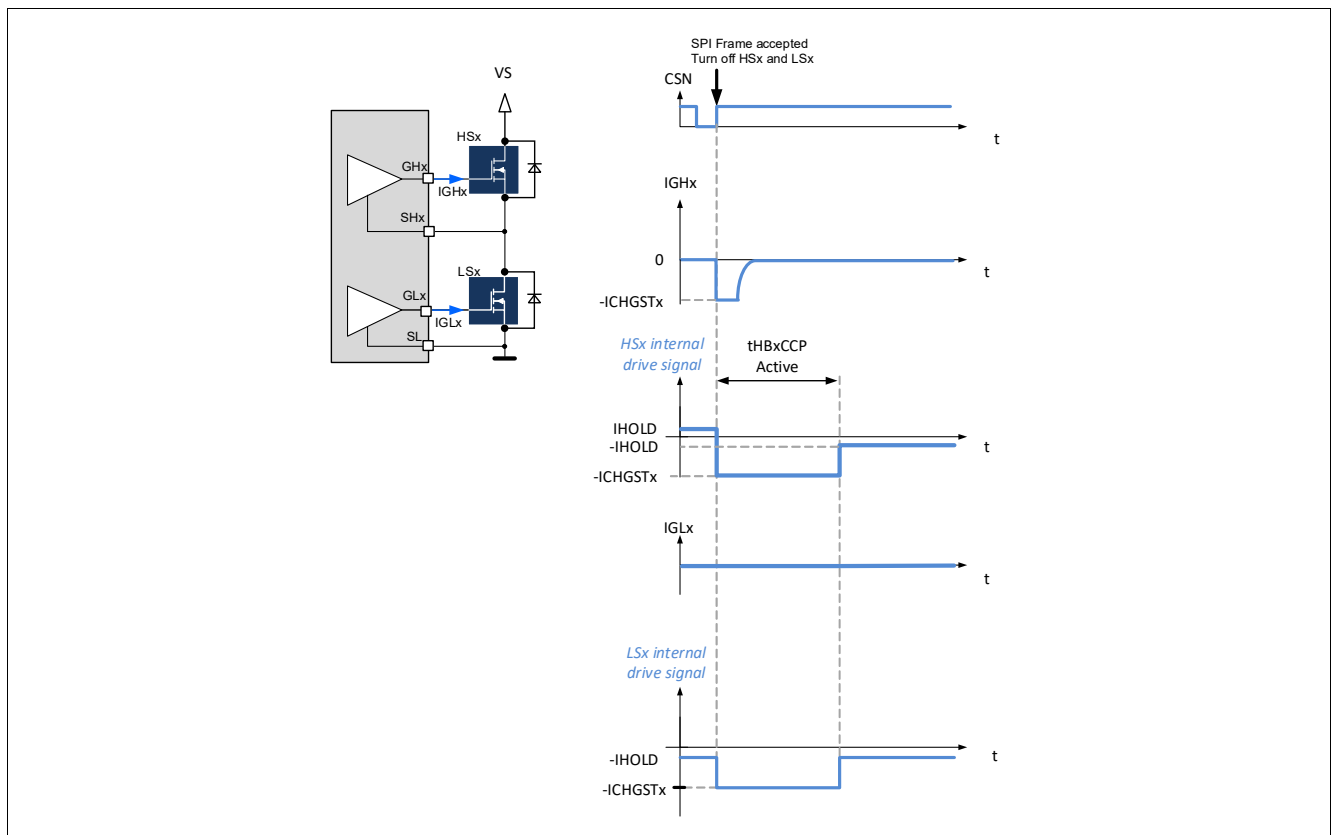

Figure 45 Turn-off of the high-side and low-side MOSFETs of a half-bridge
- The gate of HSx and LSx are discharged with the current $-ICHGSTx$ for the duration $t_{HBxCCP ACTIVE}$ (Figure 45).